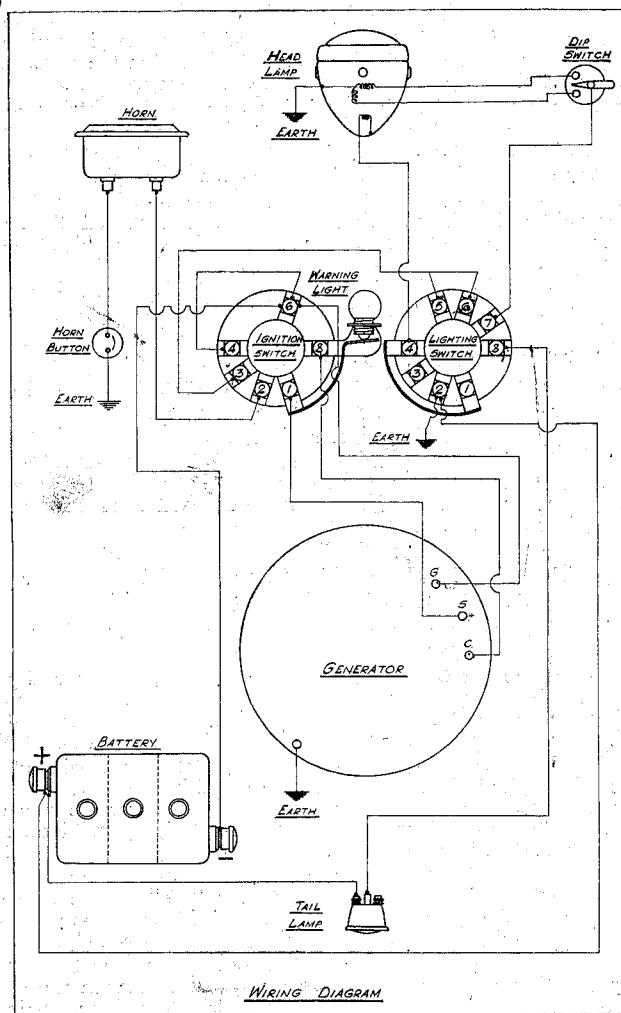

FIG. 65.
The wiring diagram is shown in Fig. 65.
**NOTE.** MILLER AND B.T.H. SETS ARE WIRED WITH THE POSITIVE TERMINAL TO EARTH. (Figs. 65 & 69.)